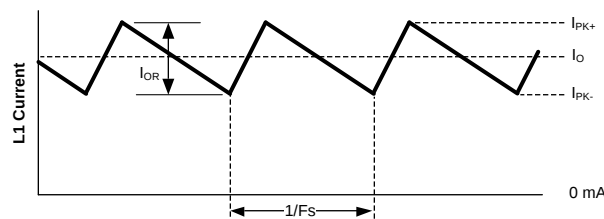

Figure 11. Inductor Current
**RCL:** Since it is obvious that the lower peak of the inductor current waveform does not exceed 1.0A at maximum load current (see Figure 11), it is not necessary to increase the current limit threshold. Therefore  $R_{CL}$  is not needed for this exercise. For applications where the lower peak exceeds 1.0A, see the section entitled Increasing The Current Limit Threshold.
**C1:** This capacitor limits the ripple voltage at VIN resulting from the source impedance of the supply feeding this circuit, and the on/off nature of the switch current into VIN. At maximum load current, when the buck switch turns on, the current into VIN steps up from zero to the lower peak of the inductor current waveform ( $I_{PK-}$  in Figure 11), ramps up to the peak value ( $I_{PK+}$ ), then drops to zero at turn-off. The average current into VIN during this on-time is the load current. For a worst case calculation, C1 must supply this average current during the maximum on-time. The maximum on-time is calculated at  $V_{IN} = 6V$  using Equation 5, with a 25% tolerance added:
The current limit threshold is nominally 1.25A, with a minimum guaranteed value of 1.0A. If, at maximum load current, the lower peak of the inductor current ( $I_{PK-}$  in Figure 11) exceeds 1.0A, resistor  $R_{CL}$  must be added between SGND and ISEN to increase the current limit threshold to equal or exceed that lower peak current. This resistor diverts some of the recirculating current from the internal sense resistor so that a higher current level is needed to switch the internal current limit comparator.  $I_{PK-}$  is calculated from: